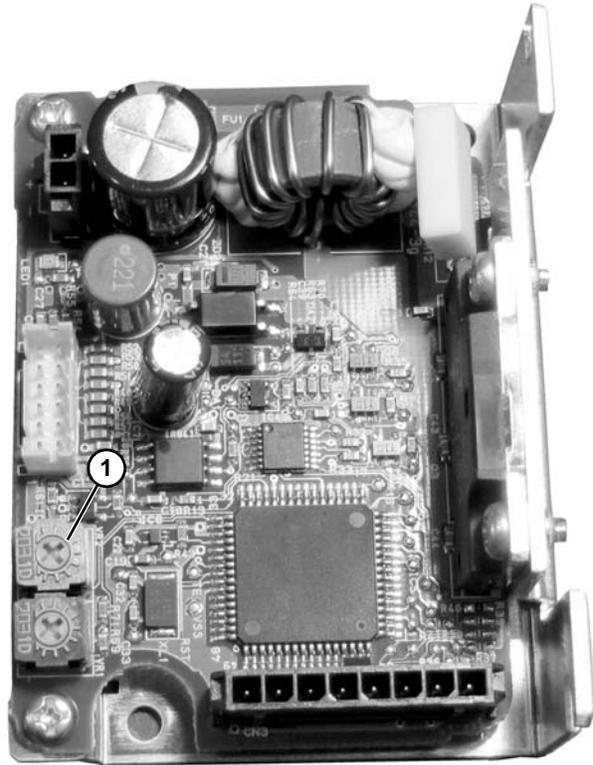

Figure 11
1. Adjust desired accel/decel at driver (Figure 11, item 1).